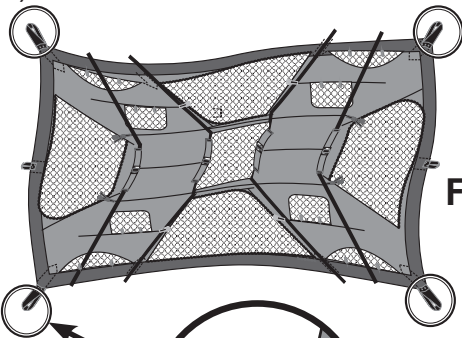

Fig. 1
- Layout and position the tent with door facing desired direction. (Fig. 1)